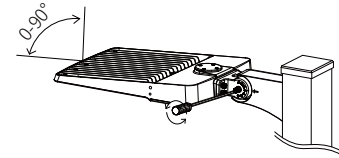

Figure 2-4
Step4: If the installation angle of the fixture needs to be adjusted, loosen the screws of the bracket, and fix them again after finished adjustment, Figure 2-4;